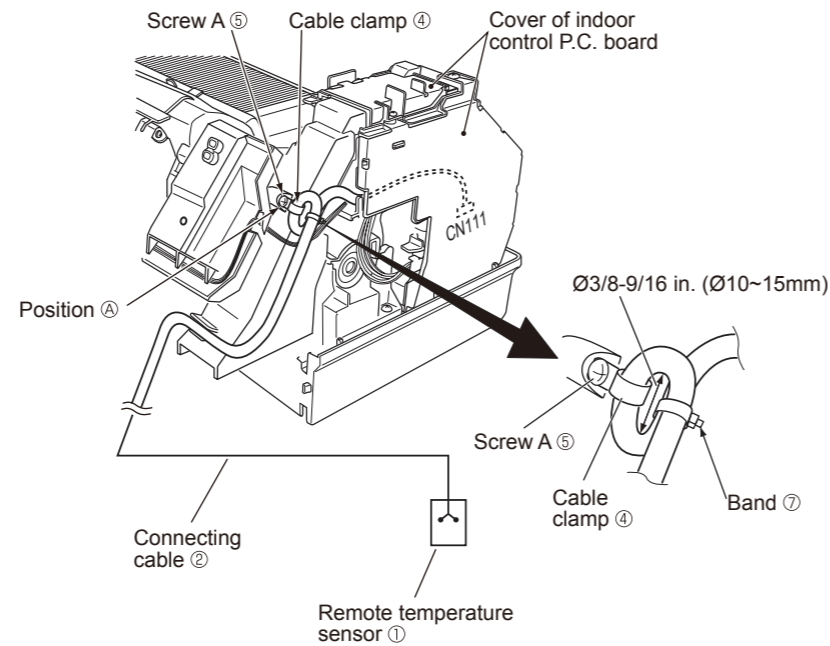

Fig. 1
③ Junction cable	1	⑥ Screw B 	3
- Connect the remote temperature sensor ① to the indoor control P.C. board installed in the air conditioner with the connecting cable ②.
- Do not bundle together the connecting cable ② and other cables/wires such as the power supply cord, the indoor/outdoor connecting wire, and the ground (earth) wire. Keep as much distance as possible between the connecting cable ② and other cables/wires.
- Remove the existing room temperature thermistor from CN111, and identify the shape of the connector. If the connector of the removed room temperature thermistor and that of the connecting cable ② are different in shape, connect the junction cable ③ to the connecting cable ②.
- Route the wires and cables in the indoor unit by following the installation manual for the interface came with the indoor unit. (How to route the wires/cables varies depending on the indoor unit model.) Also, identify the position where the interface cable is secured (hereafter position ④) by referring to the same installation manual.
- Connect the connecting cable ② (or the junction cable ③ connected to the connected cable ②) to CN111.
- Leave some slack in the connecting cable ② between CN111 and position ④, and make a loop with an inner diameter of 3/8 to 9/16 inches (10 to 15 mm) near position ④. Fasten the loop with the band ⑦. Attach the cable clamp ④ to the loop, and secure it to position ④ with the screw A ⑤. (Fig. 1)